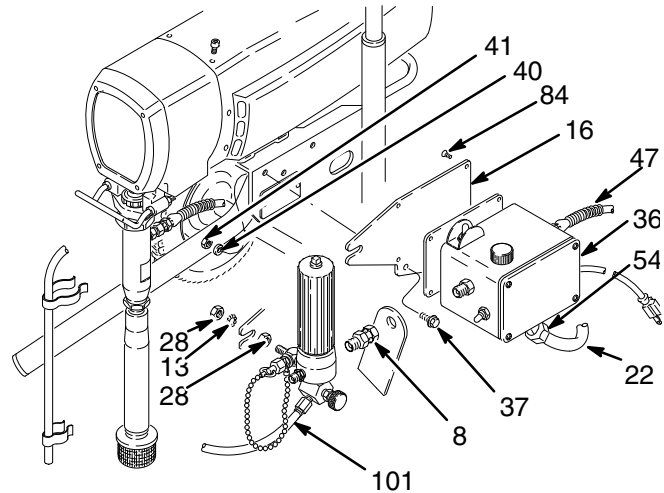
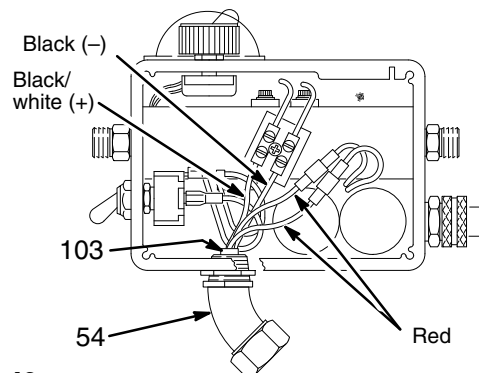

Fig. 41
Fig. 42
**NOTE:** Refer to Fig. 41 except where noted.
1. Disconnect the hose (47).
2. Disconnect the drain tube (101) from the drain valve.
3. Loosen the outside filter bracket nut (28). Unscrew the swivel fitting (8) and remove the filter.
4. Remove the pressure control cover (36). Disconnect the four motor leads. See Fig. 42.
5. Unscrew the connector (54). Pull the wires out of the pressure control.
6. Remove the pressure control mounting screws (37). Remove the pressure control. Install the connector (54) on the new pressure control.
7. Install the new pressure control. Place the seal (103) around the motor leads and push the seal into the connector (54). See Fig. 42.
2. Remove the back pressure control plate (16).
3. Remove the pressure control cover. Disconnect the power supply cord leads. See Fig. 42.
4. Loosen the strain relief bushing (B). Remove the power supply cord (23).